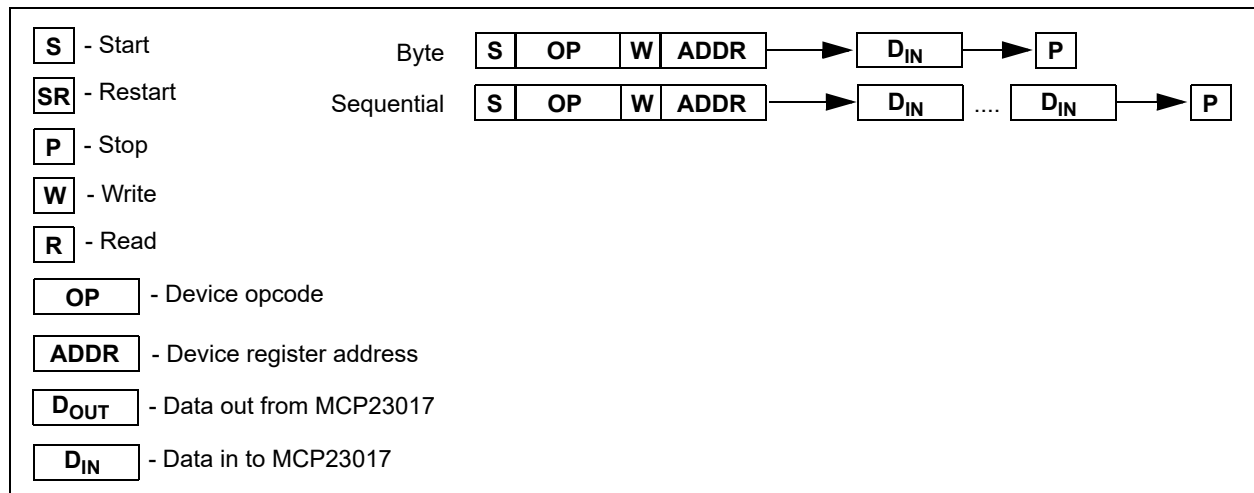

FIGURE 3-1: Byte and Sequential Write.
The I²C write operation includes the control byte and register address sequence, as shown in Figure 3-1. This sequence is followed by eight bits of data from the host and an Acknowledge (ACK) from the MCP23017. The operation is ended with a Stop (P) or Restart (SR) condition being generated by the host.